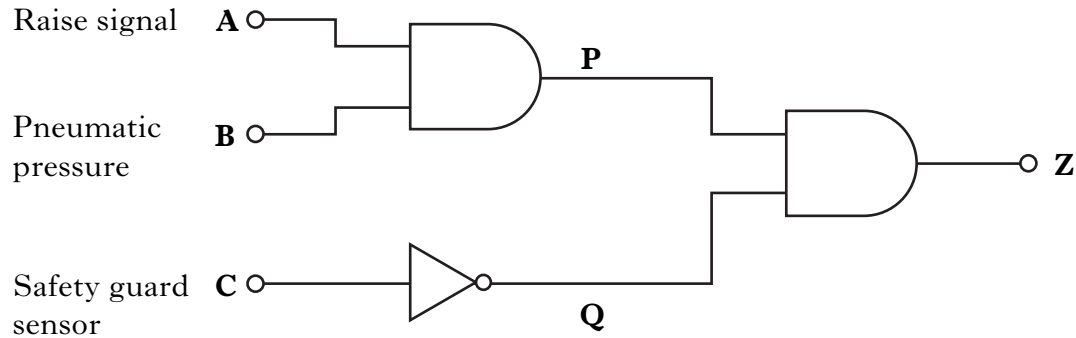

Figure Q10(a)
10. A pneumatic system is used to raise and lower an examination table in an animal hospital. The logic circuit used for the control of the pneumatic system is shown in Figure Q10(a).
- (a) With reference to the logic circuit shown in Figure Q10(a):
- (i) write a Boolean expression for the lifting system output (Z), in terms of inputs A, B, C;